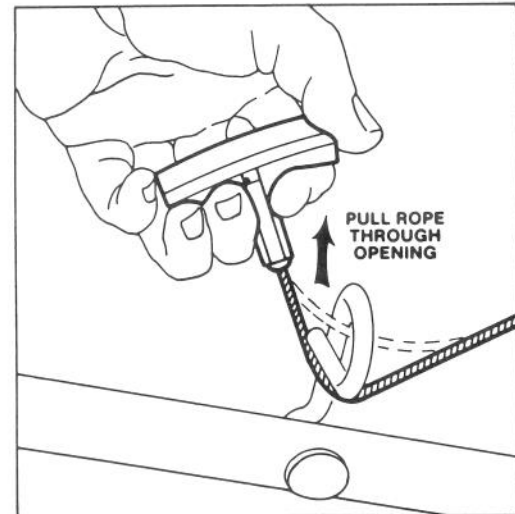
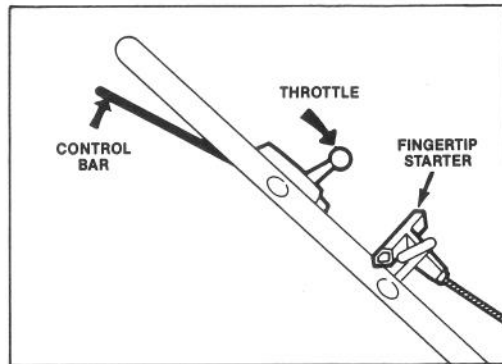

Figure 3
Figure 5
3. **STARTER ROPE (Fig. 3)** – Pull starter rope through opening in rope guide. By squeezing control bar (Fig. 5) against handle, blade brake will release and allow rope to be pulled easily up to rope guide.
1. **CONTROLS** — Throttle, control bar and fingertip starter are on upper handle (Fig. 5).
3. **STARTING** — Move throttle to FAST and hold control bar against handle. Pull fingertip starter and regulate throttle as desired when engine starts (Fig. 5). If engine does not start after 2 or 3 pulls, wait 10 seconds for carburetor prime well to refill with gasoline.
5. **STOPPING** (Fig. 5) — Release control bar to stop engine and blade. Pull wire off spark plug if mower is unattended or not used.